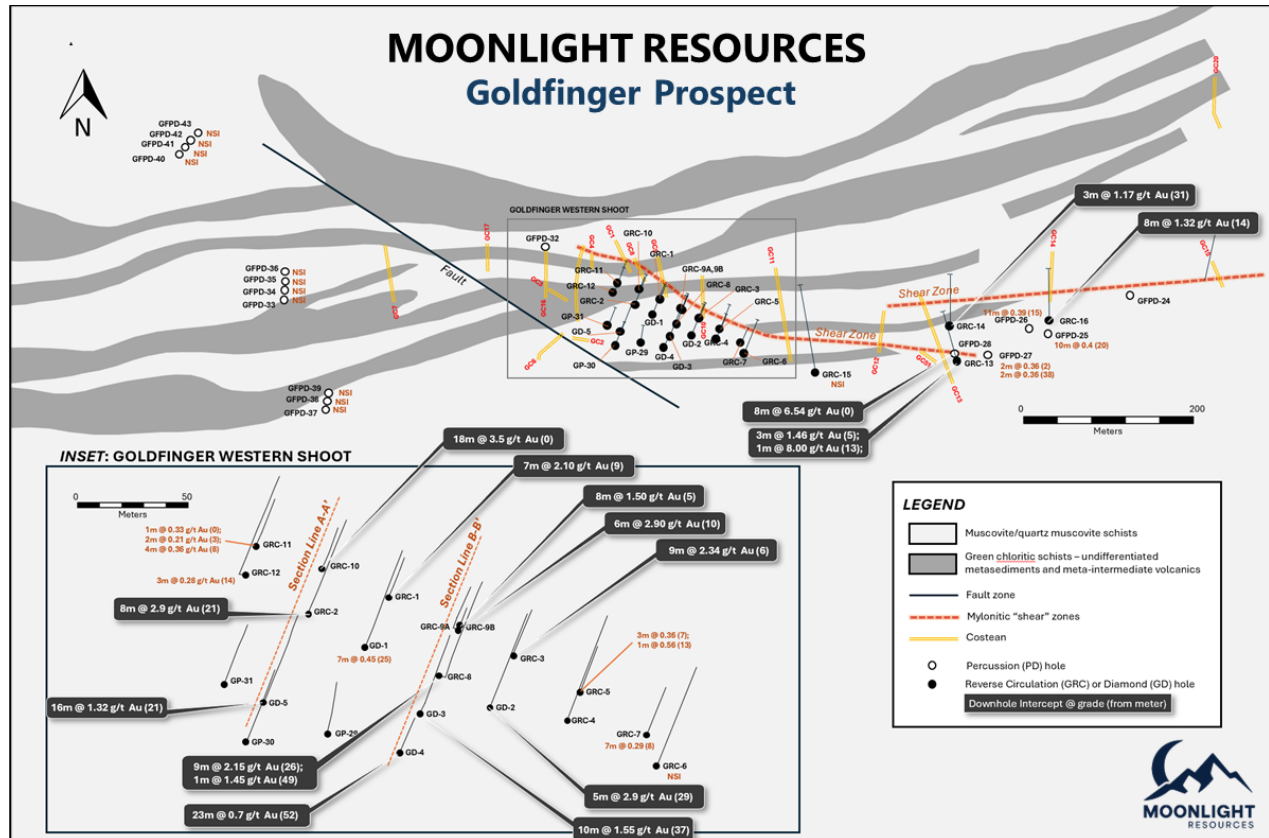

Figure 4 – Goldfinger Prospect, oxide gold in shear hosted quartz veins Clermont Gold Project
Historic drilling included fifteen (15) RC holes for 713 metres and six (6) diamond holes for 389 metres (see Figure 4). Goldfinger is a shallow oxide gold zone defined by notable historic intercepts, including²: